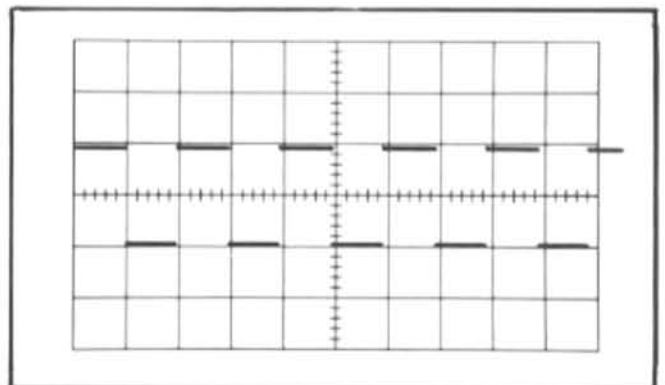

Fig. 7-20. Channel 1 signal out amplifier waveform.
e. CHECK—That the peak-to-peak amplitude of the display is two cm (100 mV),  $\pm 2$  mm (see Fig. 7-20). This is a gain of  $10\times$ ,  $\pm 10\%$ .